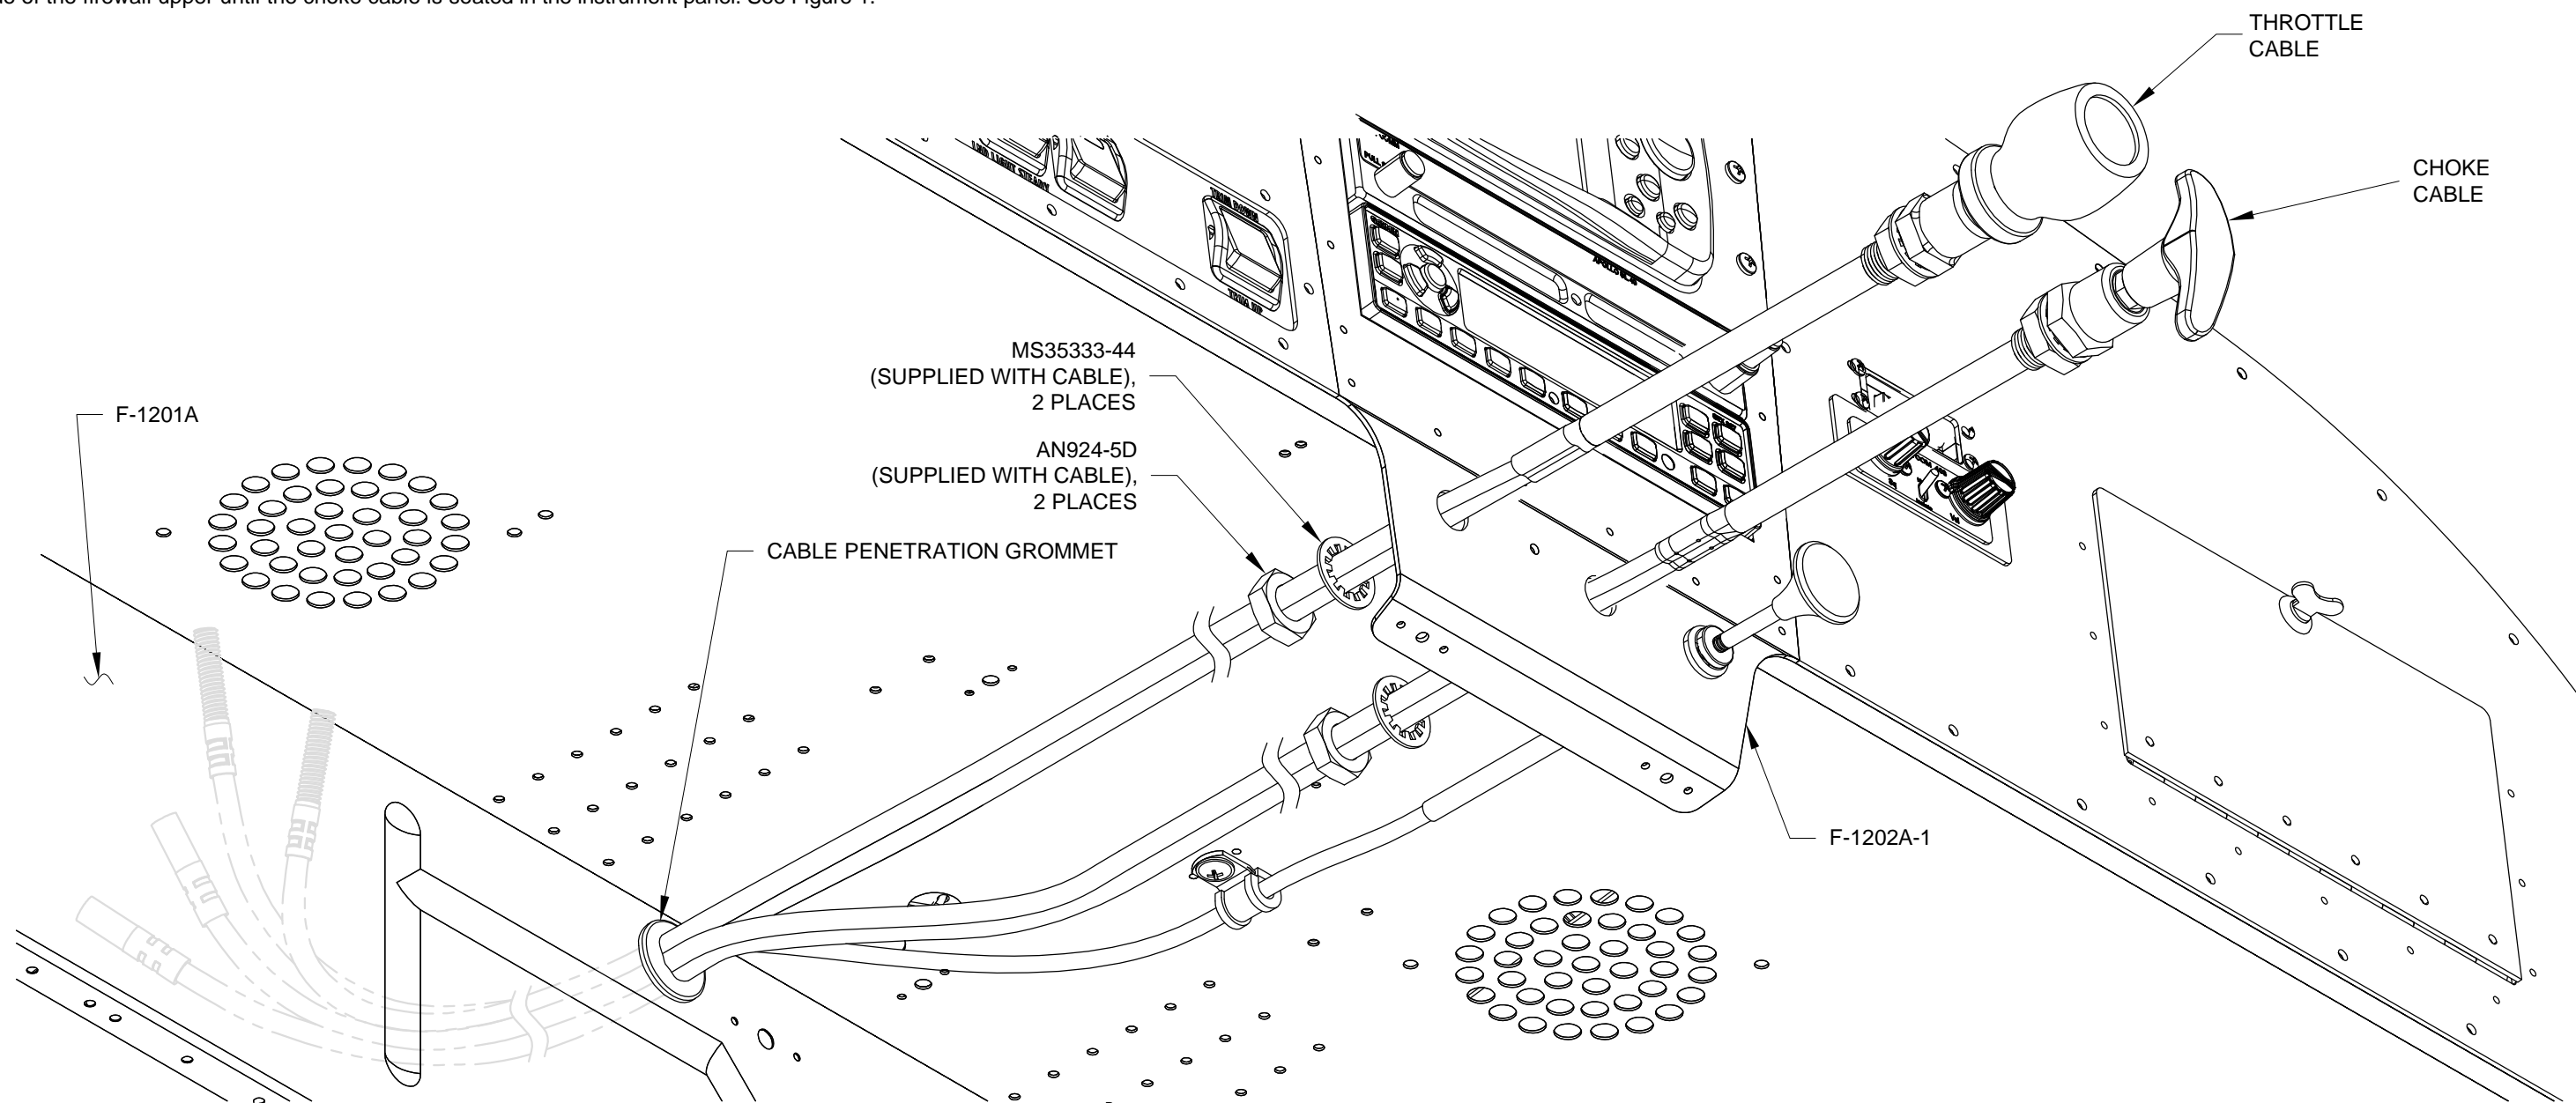

FIGURE 1:
Step 1: Route the Throttle Cable through the left hole in the F-1202A-1 Instrument Panel, through the nut and washer called out in Figure 1 and the cable penetration grommet in the F-1201A Firewall Upper. Feed the cable slack to the forward side of the firewall upper until the throttle cable is seated in the instrument panel. See Figure 1.
Step 2: Route the Choke Cable through the remaining hole in the F-1202A-1 Instrument Panel, through the nut and washer called out in Figure 1 and the cable penetration grommet in the F-1201A Firewall Upper. Feed the cable slack to the forward side of the firewall upper until the choke cable is seated in the instrument panel. See Figure 1.